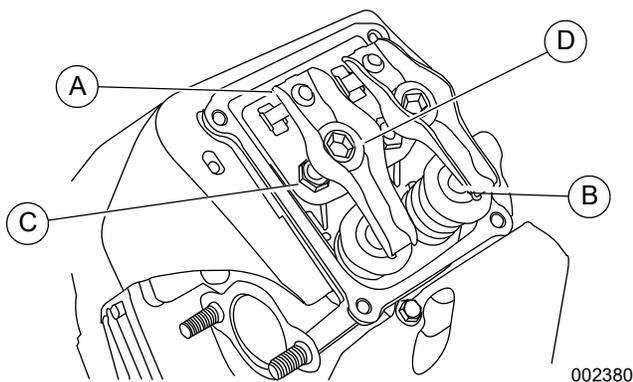

Figure 4-6. Check and Adjust Valve Clearance
8. See Figure 4-6. Verify valve clearance between rocker arm (A) and valve stem (B) with a feeler gauge.
8. See Figure 4-6. Loosen rocker jam nut (C) with a 13 mm wrench.
9. Turn pivot ball stud (D) using a 13 mm wrench while inspecting clearance between rocker arm and valve stem with feeler gauge. Adjust clearance as per Specifications.